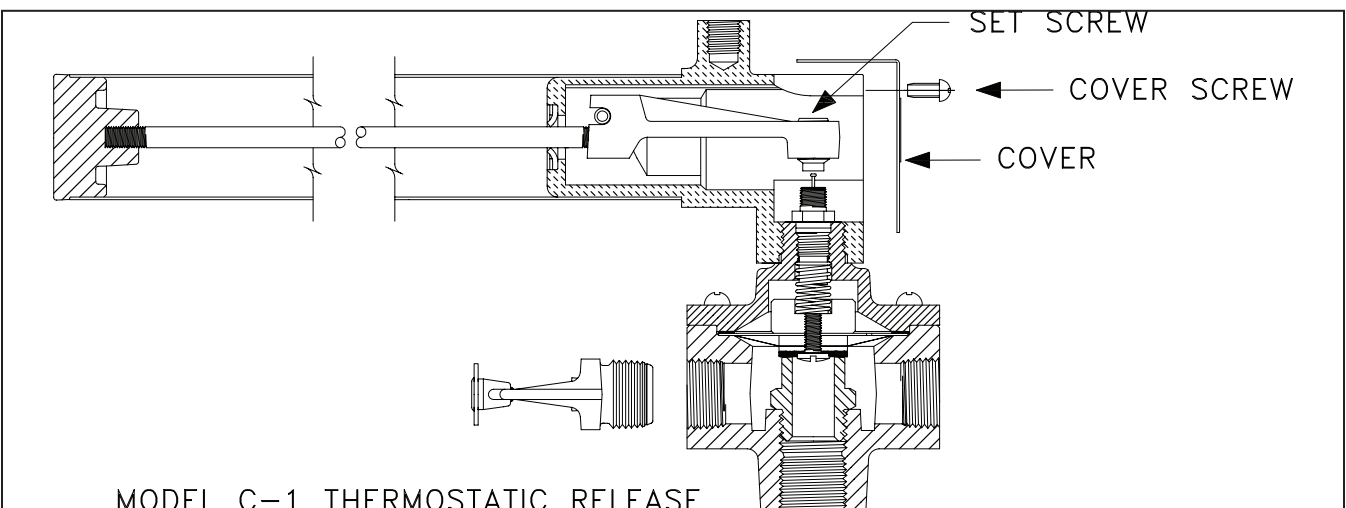

Figure 42
- c. Using a screw driver, remove two screws and cover (Figure 42).
4. Using a screw driver, remove two screws and cover (Figure 42).